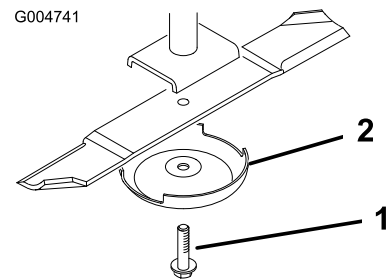

Figure 83
2. Grasp the end of the blade using a rag or thickly padded glove. Remove the blade bolt, anti-scalp cup, and blade from the spindle shaft (Figure 83).